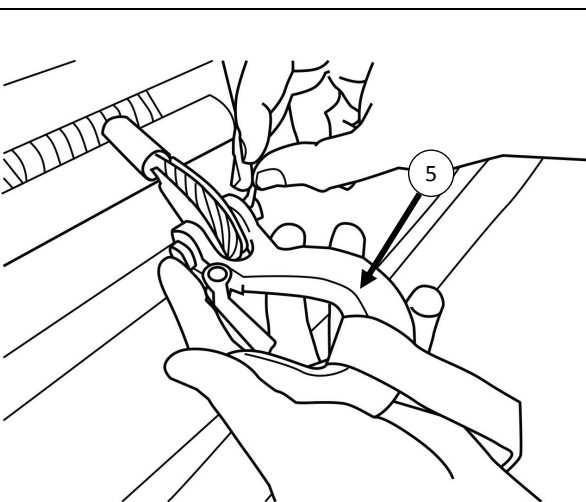

Figure 60: Attach hook to cable
- Pass steel cable through Roller Fairlead (Item 3) and install Winch Hook and Pin (Item 5) as shown in Figure 60.